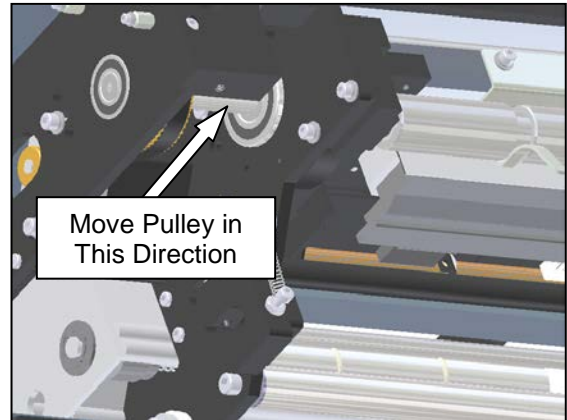
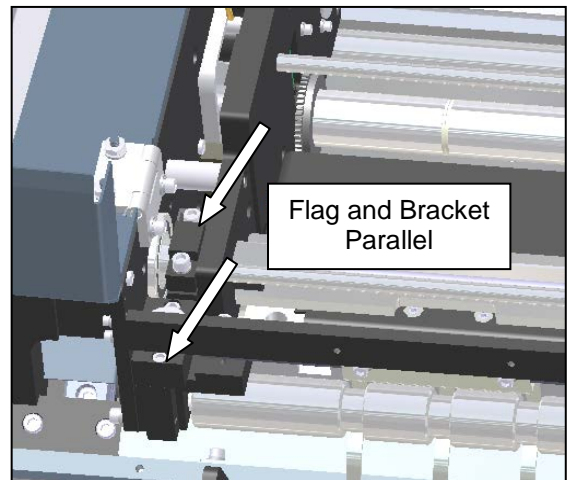

Figure 3-251. Transfer Shaft Pulley
Figure 3-252. Sensor Flag Position
20. Check the position of the sensor flag manually. Turn the transfer shaft pulley back and forth to ensure the flag will not hit the front or rear plate support. If severe interference is indicated, adjust the sensor flag by turning the pulley counterclockwise to position the printhead at its highest position (Fig. 3-251). The sensor flag should be parallel to the pinch roller brackets in this position (Fig. 3-252).